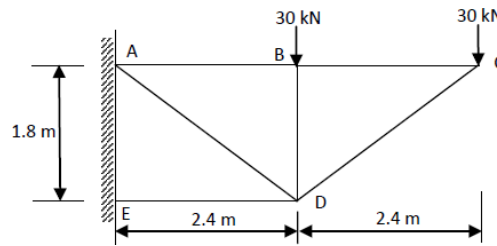

fig.27
1. Find the forces in the members of a truss as shown in fig.27